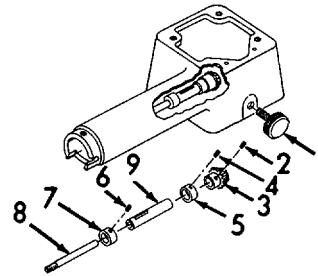

Figure 6-100. Hook Shaft, Installation.
g. Installation (Refer to Figures 6-100 through 6-102).
- (1) Refer to Figure 6-100. Apply lubricating oil to hook shaft (8) and insert it through the yoke shaft bushing (9) and through to the rear of the arm.
- (2) Install front and rear hook shaft collars (5 and 7) onto hook shaft (8) and tighten setscrews (4 and 6) in collar.
- (3) Install hook shaft gear (3) on hook shaft (8) and tighten setscrew (2). Figure 6-100. Hook Shaft, Installation.